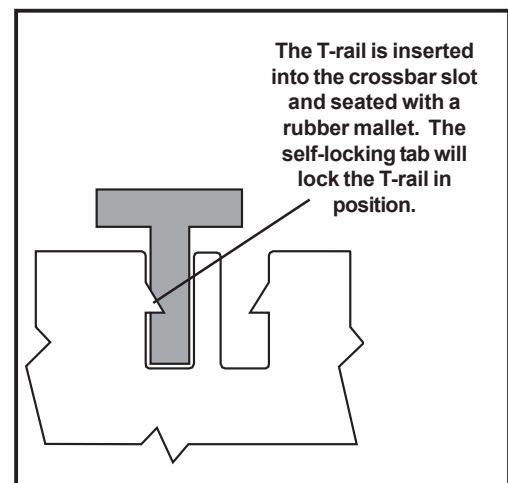

Figure 59
5. Using a rubber mallet, tap the T-rail to fully seat it in the crossbar slot. The self-locking tab will lock the T-rail in position (*Figure 59*).